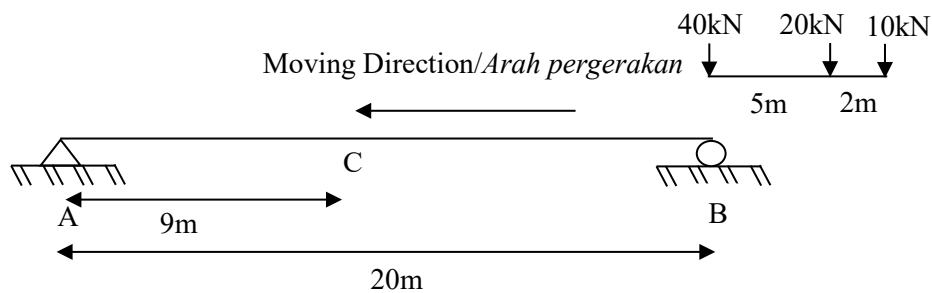

Figure A2(a)/Rajah A2(a)
- (a) A beam is subjected to a series of loads as shown in Figure A2(a). By using Influence Line Diagram Method.